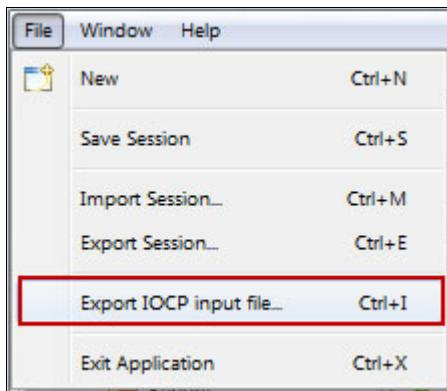

Figure 4-48 Export IOCP input file
1. Select **File → Export IOCP input file** (Figure 4-48).